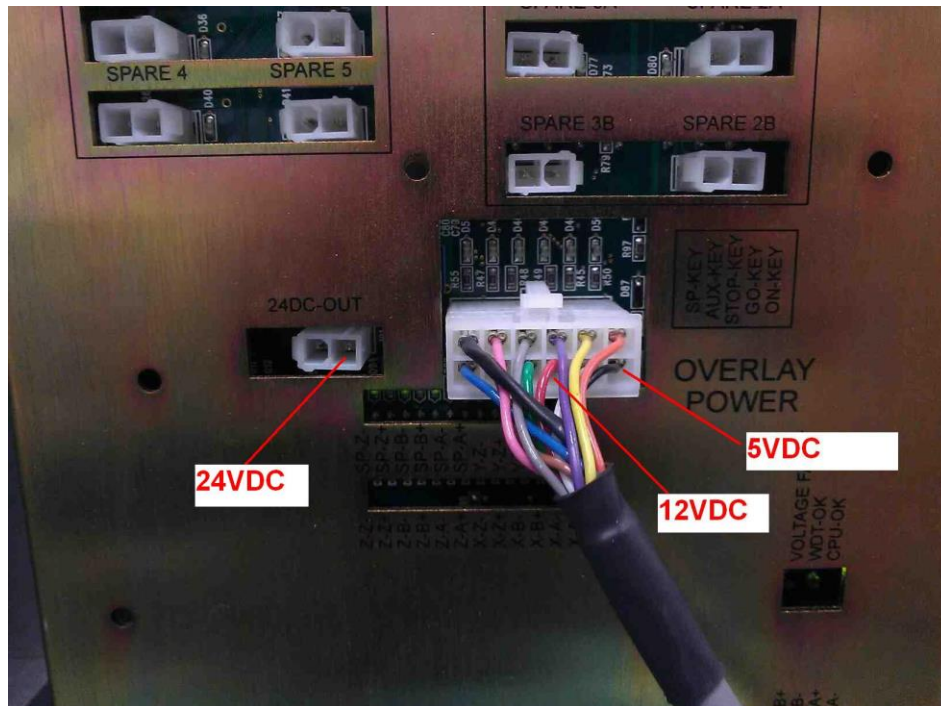

Figure 5.7.1b
4. 24VDC (22 to 26VDC) – This voltage is produced by the internal power supply of the computer module and is used for most of the inputs and outputs. The voltage can be measured between pin 1 of the 24VDC Port and the chassis ground on the computer module, as seen on figure 5.7.1b
5. +12VDC (11 to 13VDC) – This voltage is produced by the internal power supply of the computer module, it is used to power some internal functions of the computer module and to power the LCD controller board. The voltage can be measured between pin 3 of the Overlay Power Port and the chassis ground on the computer module, as seen on figure 5.7.1b. If this voltage is not correct the computer module will produce a DC Power Fault that will be identified by the Voltage Fault LED being turn ON, on the computer module.
computer module, servo drives, motor encoders, and the Overlay Interface board on the pendant. The voltage can be measured between pin 1 of the Overlay Power Port and the chassis ground on the computer module, as seen on figure 5.7.1b. If this voltage is not correct the computer module will produce a DC Power Fault that will be identified by the Voltage Fault LED being turn ON, on the computer module.